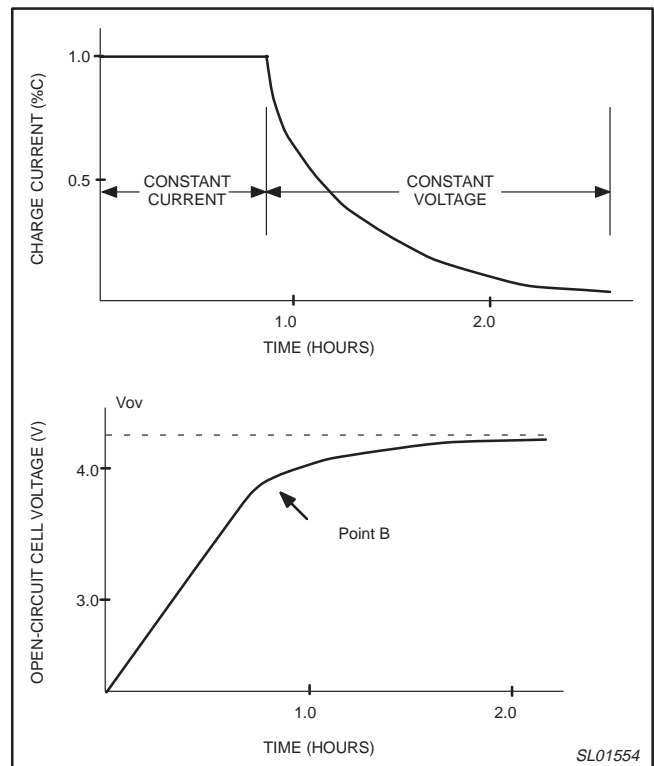

Figure 16. Lithium-ion charging curves.
It is important to allow enough time to charge the cell to take advantage of the higher energy density of the lithium cells. When the charger switches from constant current charge to constant voltage charge (Point B, Figure 16) the cell only contains about 80 percent of its full-rated capacity. When the cell is 100 mV less than its full rated charge voltage, the capacity contained within the cell is about 95 percent. Allowing the cell to slowly complete its charge takes advantage of the larger capacity of the lithium cells. The complete charging curve can be seen in Figure 16.
Figure 16 shows some of the terms and charging periods.
First, calculate the desired voltage of the ADJ pin in question. This is done by executing Equation (2), and using the value of the input offset voltage (V_{OS}) if applicable. It becomes a matter of solving a resistor divider problem with a parallel resistor on the lower branch. The equation becomes (referring to the resistor designators in Figure 16 and the values from Table 2):